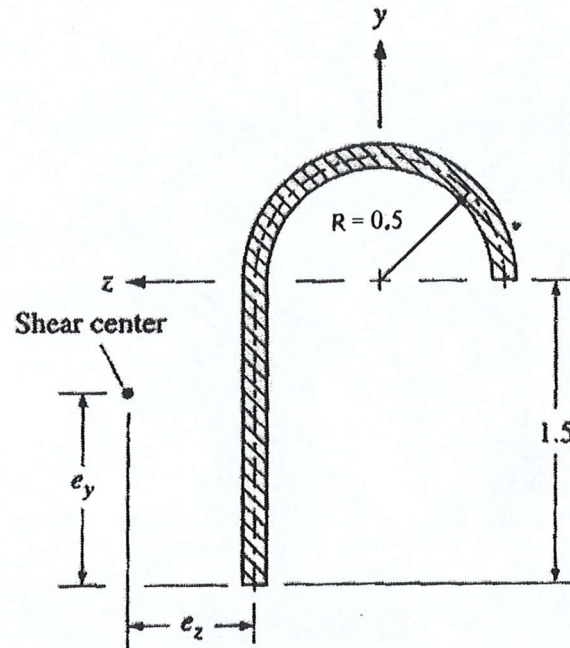

Figure 2 (All dimensions are in inches)
2. (a) Determine the location of the shear center for the cross section shown in **Figure 2**. The wall thickness is 0.125 in, and the radial dimension is to the wall center.